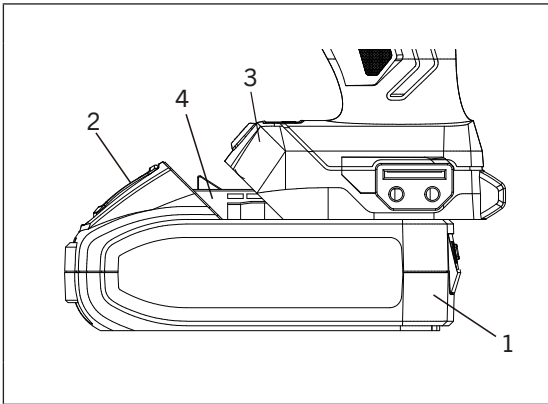

FIG. 3
1. Remove the discharged battery (1) from the impact wrench by pressing downward on the battery release button (2) and sliding the battery backward until it is removed from the wrench handle (3) (Fig. 3).
2. Slide the fully charged battery onto the matching keys (4) in the wrench handle where the discharged battery has been removed.